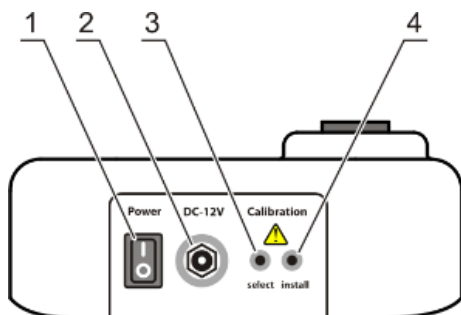

Figure 1. Rear panel of DEN-1/DEN-1B unit
2.6.1. Connect the external power supply to electric circuit. Switch on the unit using the **Power** switch (fig. 1/1) on the rear panel.
2.6.2. Press the **Select** button (fig. 1/3) on the rear of the unit.
- Empty socket. Display shows -.- indication. Press **Install** button (fig. 1/4) to save empty socket value. Display shows next required calibration value.
- If the calibration was successful, display shows “*OK!*” before returning to default screen (figure 1).